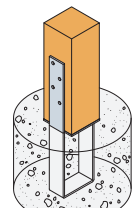

Fig 2: Install timber post
2. Once the concrete is sufficiently cured place post centrally onto CBQ base plate and prop in place (Fig 2)